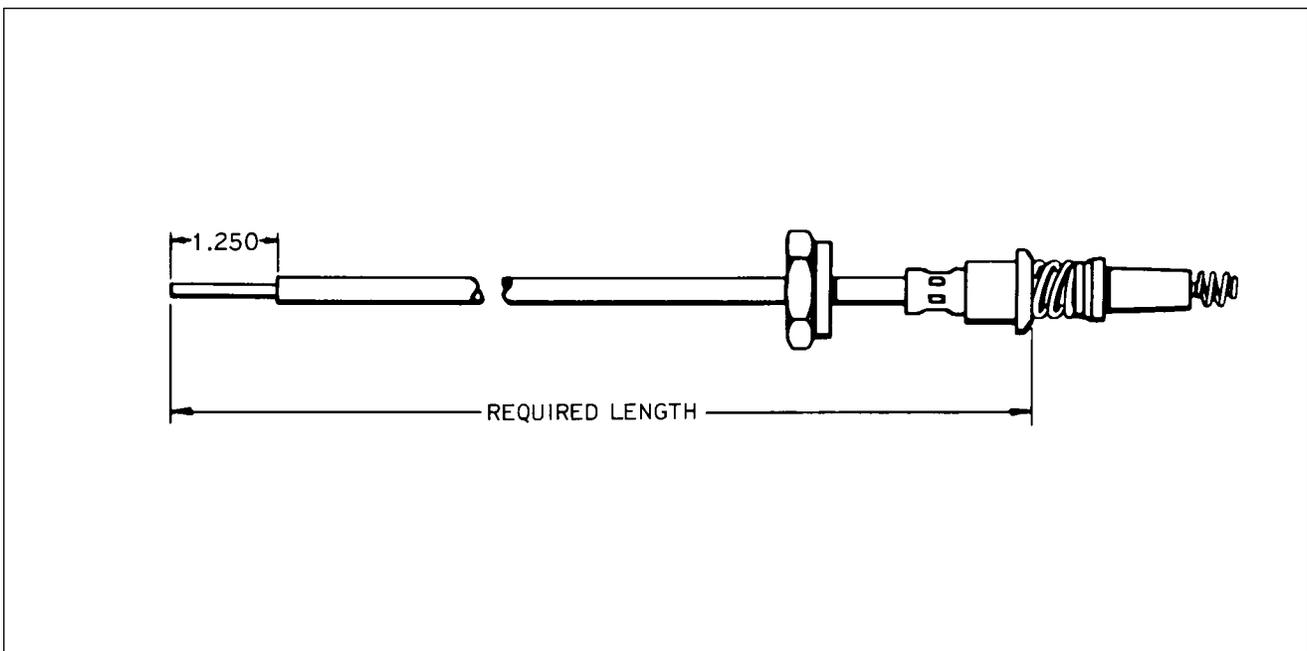

Figure 74-34. Measuring Lead Assembly Length
- (1) Measure the length of the condemned lead assembly. Move coupling nut back on lead assembly and measure from outer end of ferrule at spark plug end. (Refer to Figure 74-34 )
- (2) To length determined in Step (1), add 1-3/4 inches.